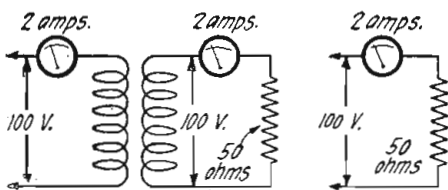
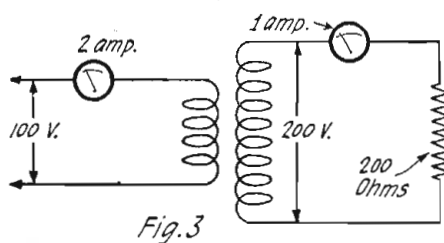
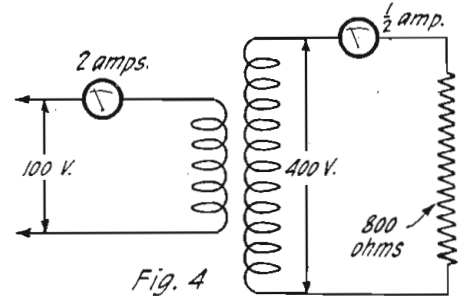

Fig. 2
Fig. 3
Fig. 4
Fig. 3 shows the operation of a transformer having a step-up ratio of 1:2, operating on 100 volts, as in Fig 2, and loaded so as to draw the same power. It will be noticed that the secondary voltage is doubled (200 volts), and the secondary current is reduced from two to one ampere, maintaining the power relations correctly. The secondary load resistance, to satisfy this condition, is obviously 200 ohms, or four times the original value of Fig. 2.
Figs. 2 and 3, from the standpoint of the primary circuit (input side) are identical. These circuits operate on 100 volts; they each take 200 watts, and the primary cur-
rents are the same. In fact, these circuits operate exactly like a simple resistance circuit of 50 ohms. The "equivalent" resistance of each circuit referred to the primary is, therefore, 50 ohms. However, the load resistance (secondary) in Fig. 2 is 50 ohms, while that of Fig. 3 is 200 ohms. Fig. 2 shows a transformation ratio of 1:1, while Fig. 3 shows a ratio of 1:2. It is apparent, therefore, that by the change in transformation ratio, we have reduced 200 ohms to what appears to be 50 ohms. If the transformation ratio had been 1:4, the situation would have been as shown in Fig. 4, where a load resistance of 800 ohms is reduced to 50 ohms in the primary circuit.
For example, in Fig. 3; the secondary resistance is 200 ohms, the equivalent resistance referred to the primary circuit is 50 ohms. The ratio is four, which is equal to the square of the voltage ratio (2). Hence, the equivalent value for any secondary resistance referred to the primary circuit is equal to the actual secondary resistance, multiplied by